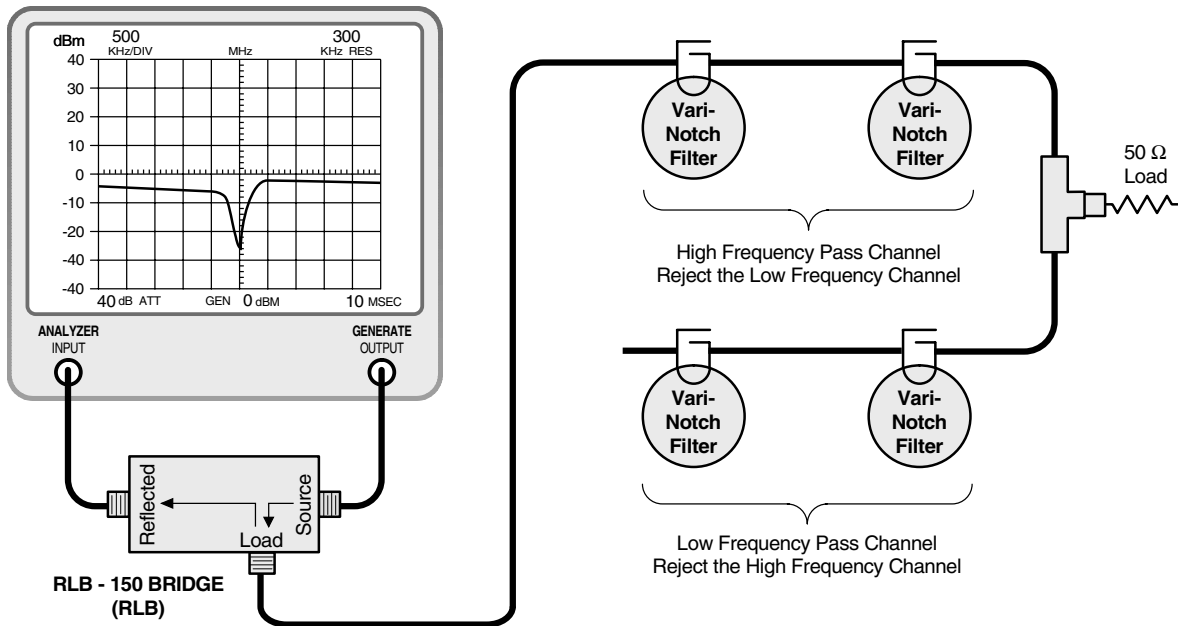

Figure 6: Equipment setup for fine tuning the passband of each channel.
9. Connect the "load" port on the RLB to the equipment port of the channel to be fine tuned. Terminate the duplexers antenna connector with the 50 ohm load. The equipment port of the remaining duplexer channel is left disconnected, refer to **Figure 6**.